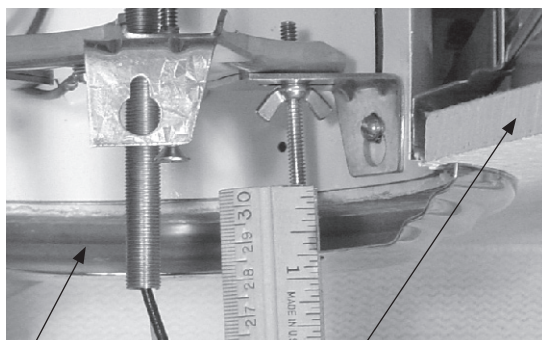

FIGURE 9
2. Measure distance from ceiling to inside of medallion (SEE FIGURE 9) loosen wingnut (E) and lower phillips screws (F) to this measurement. Re-tighten wing nut (E) to secure. Install mounting plate (J) making sure phillips screws touch mounting plate. Then install nut (I) to secure in place.